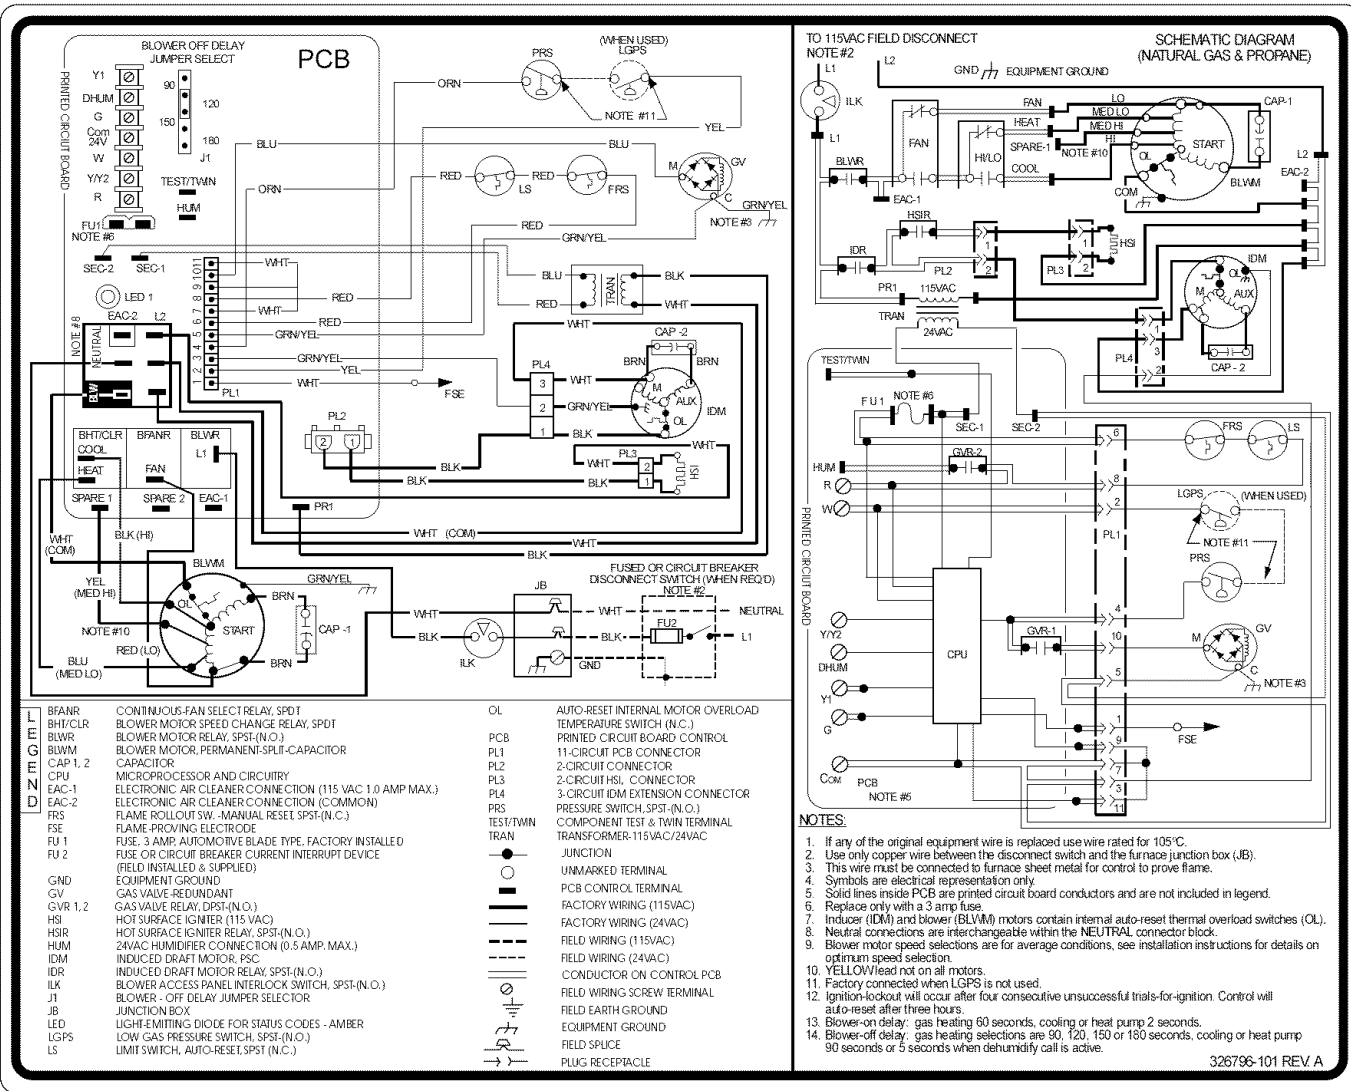

Fig. 30—Wiring Diagram
- Connect 24-v thermostat leads to 24-v terminal block on furnace control. For proper cooling operation, Y wire from thermostat **MUST** be connected to Y/Y2 terminal on furnace control, as shown in Fig. 27. The 24-v terminal block is marked for easy connection of field wiring. (See Fig. 30.) The 24-v circuit contains
A quick-connect terminal (HUM) and screw terminal (Com 24V) are provided for 24-v humidifier connection. (See Fig. 30.) HUM terminal is energized with 24-v (0.5-amp maximum) when gas valve is energized.